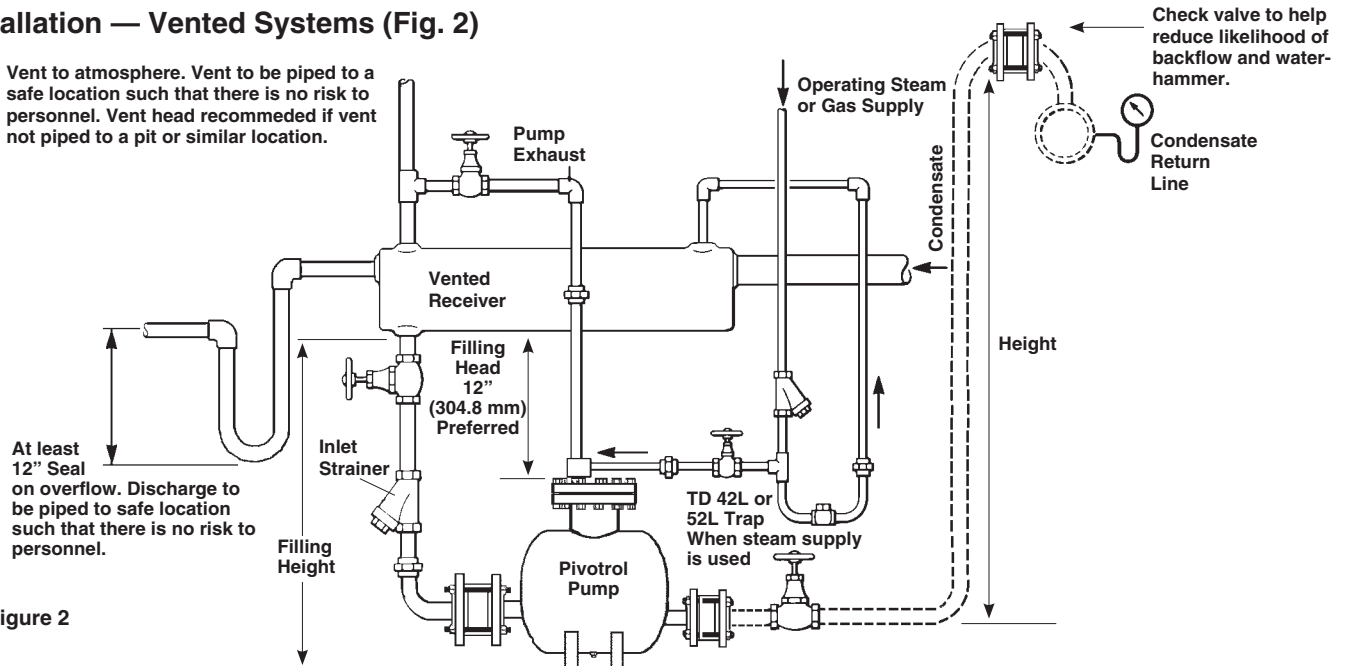

Figure 2
Installation — Vented Systems (Fig. 2)
1. Install the pump physically below the receiver to be drained with the exhaust connection vertically upwards. Pump should be installed with the recommended filling head (the vertical distance between the top of the pump and the bottom of the receiver) as shown in Fig. 2. For other filling head variations, see the capacity table on TI-5-030-US.
2. To prevent equipment flooding during the pump discharge stroke, a vented receiver should be installed in a horizontal plane ahead of the pump as shown in Figure 2. For proper receiver sizing, refer to table 1. All inlet line fittings must be fully ported.
A receiver overflow piping should be installed as shown in Fig. 2 and piped to a suitable drain. The piping must form a loop type water seal at least 12" (304.8 mm) deep immediately after the receiver.
5. Any horizontal runs in the exhaust line should be pitched so that the line is self-draining. The exhaust line should be piped, unrestricted, to atmosphere as shown in Figure 2.